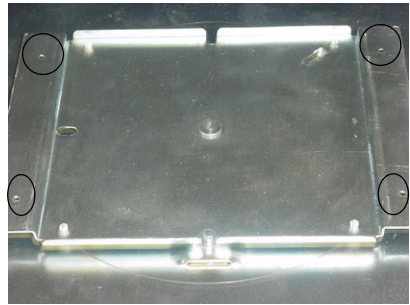

Figure 8. Location of dispenser mounting holes.
7. Refer to Figure 8. Align the four holes in the base of the dispensing mechanism with the four holes in the turntable flanged edges. Secure the dispensing mechanism to the turntable with the four, #6-32 x x5/16 screws supplied in the accessory kit.